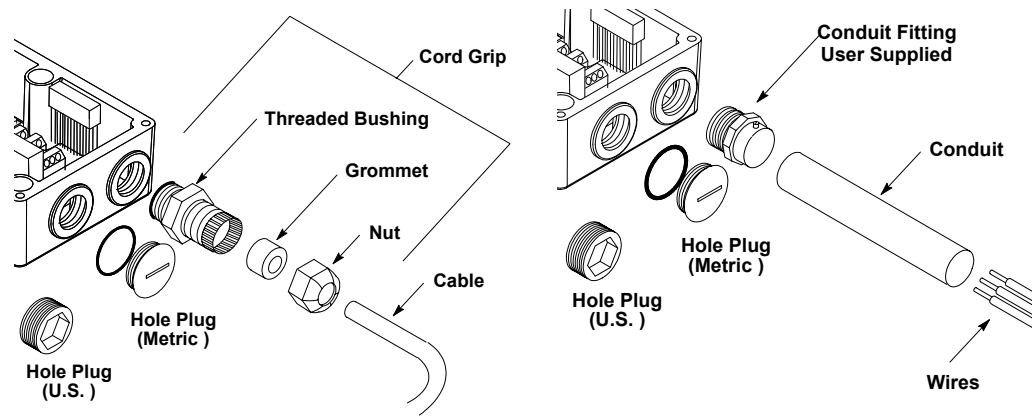

Figure 4-4: Cabling, Conduit, and Hole Plugs on Axiom Wiring Base
- Where the cabling enters the wiring base, use the supplied cord grips with rubber grommets. (See *Figure 4-4, left illustration.*)
- Where the conduit meets with the wiring base, you will need to supply the correct conduit fittings. (See Figure 4-4, right illustration.)